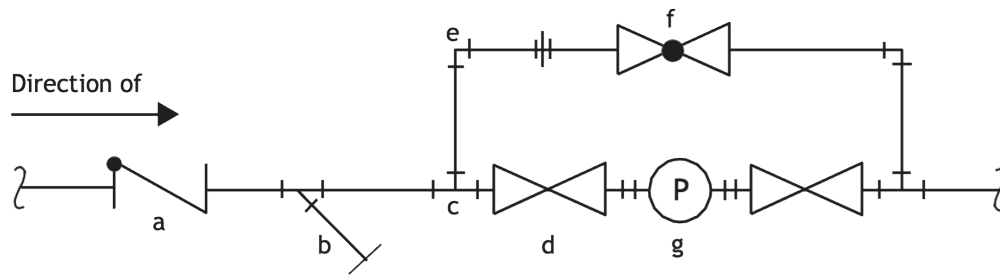

Figure 16 Illustration for Question 21
22. Identify the symbols A to G in Figure 16.